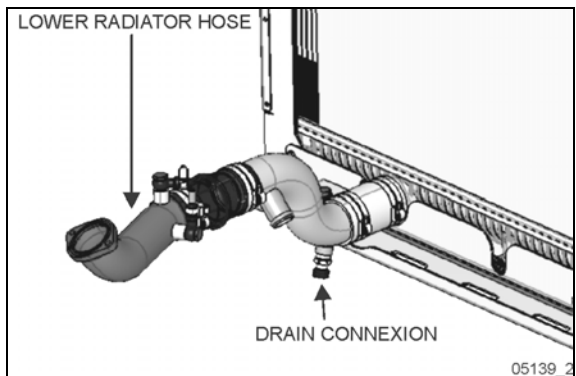

FIGURE 30: COOLANT DRAIN EXTRACTOR CONNECTION
7. Connect coolant extractor (Figure 30) to the radiator drain cock and drain the coolant system as per *Draining cooling system in paragraph 7 of this section*.